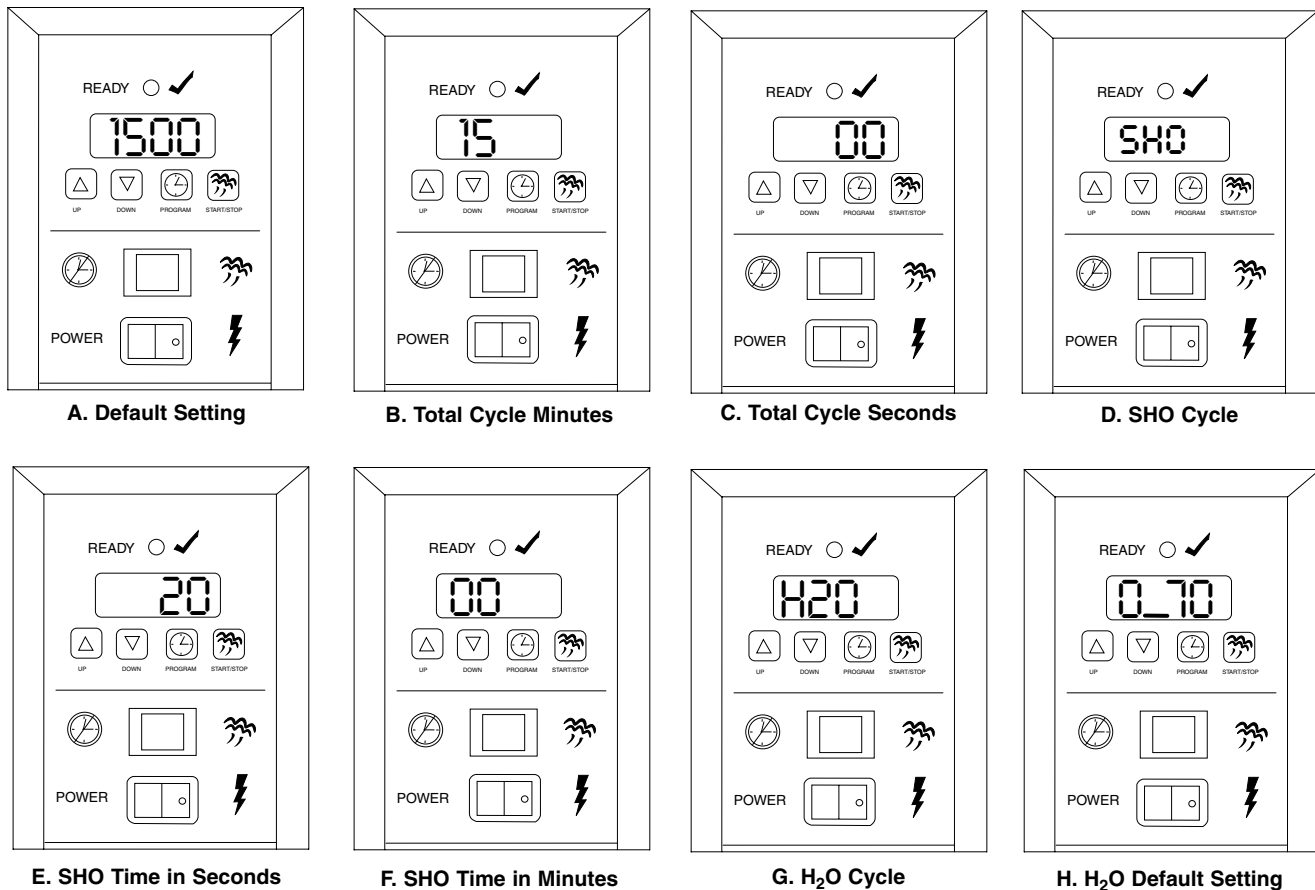

Figure 6. Control Programming Sequence
To program the control, refer to Figure 6 and use the following procedure in sequence:
1. Turn the rocker switch (power on/off) to ON. The display will show the factory programmed (default) Total Cycle Time in minutes/seconds (Item A, Figure 6).
3. To change the Total Cycle Time factory settings (default), use the UP or DOWN arrow buttons to change the Total Cycle time in minutes (Item B, Figure 6).
4. Depress the program button again, and use the UP or DOWN arrow buttons to change the Total Cycle Time in seconds (Item C, Figure 6).
5. To change the SHO factory settings (default), make sure the control is in PROGRAM mode, then depress the two arrow buttons simultaneously. SHO will be displayed (Item D, Figure 6).
- Depress the program button once and use the UP or DOWN arrow buttons to change the SHO (Shot Interval Time) in seconds (Item E, Figure 6).
- Depress the program button again and use the UP or DOWN arrow buttons to change the SHO (Shot Interval Time) in minutes (Item F, Figure 6).
- Depress the program button again and H₂O will be displayed (G, Figure 6).
- To change the H₂O (Steam Shot) factory settings (default), depress the program button again to display the default setting (Item H, Figure 6). Use the UP or DOWN arrow buttons to increase or decrease the time.